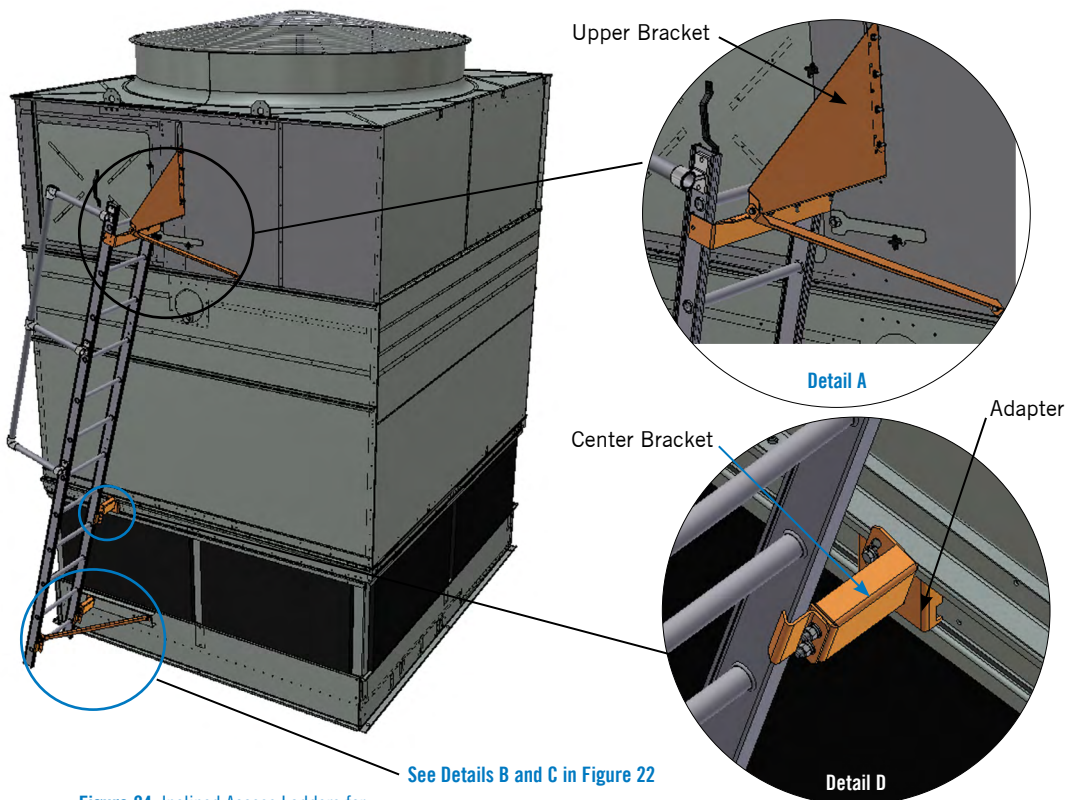

Figure 24. Inclined Access Ladders for PT2-1009, PT2-1012, PT2-1212, PT2-1214, and PT2-1218
3. For PT2-1009, PT2-1012, PT2-1212, and PT2-1218 units, install the center adapter and bracket as shown in **Figure 24, Detail D**. To install, fasten the center bracket to the adapter, but do not tighten the fasteners. The bracket flanges should face toward the unit end wall while the adapter is oriented with the holes positioned on top. Capture down break on channel between the bracket and adapter.